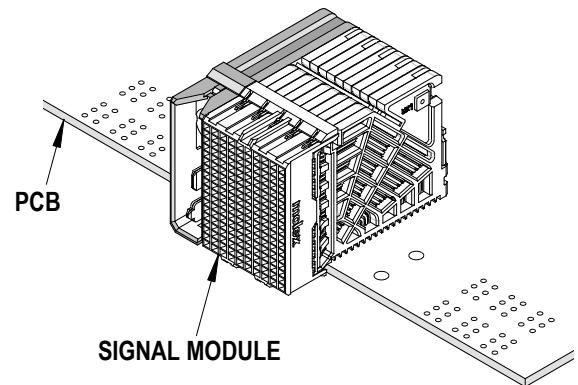

Figure 2-9
2. Pre-insert the assembly into the board by hand. Check for proper seating, without contact pins bending under the assembly after pre loading on to the Printed circuit board. See Figure 2-9.